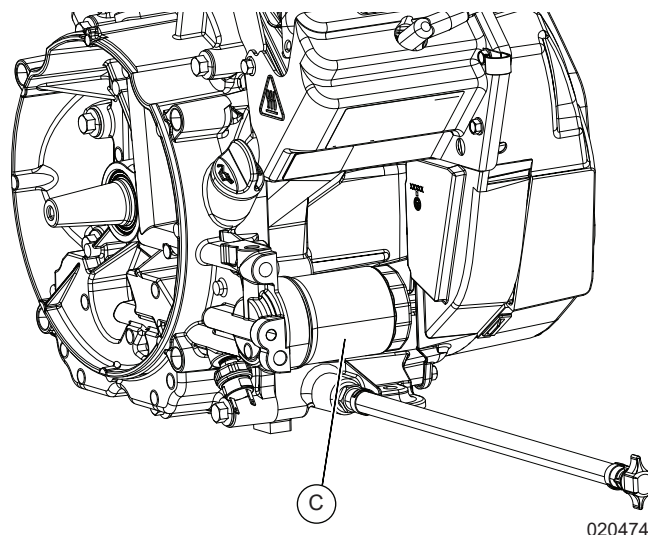

Figure 4-3. Oil Filter
2. See Figure 4-3. Remove used oil filter (C) and install oil drain cap.